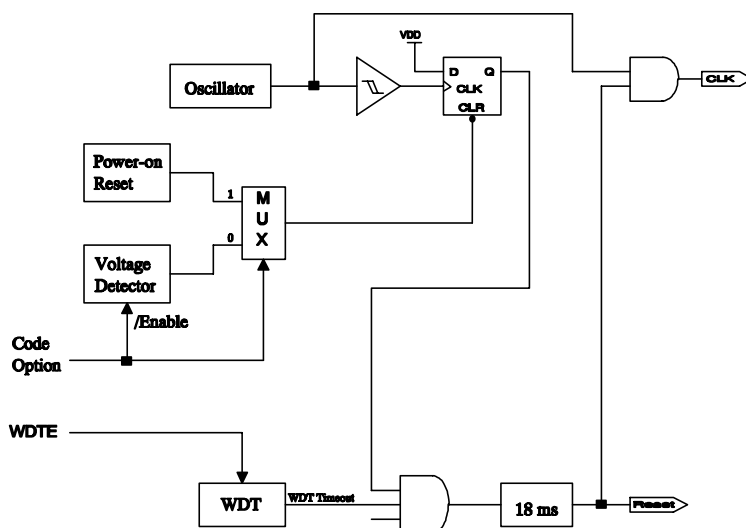

Fig.10 Block diagram of Reset of controller
- (1) External /RESET pin
- (2) Power on reset or Power on voltage detector reset (/POVD reset)
- (3) WDT timeout. (if enabled and in GREEN or NORMAL mode)
Note that only Power on reset, or only Power on voltage detector reset in Case(2) is enabled in the system by CODE Option bit. If /POVDs disabled, Power on reset is selected in Case (2). Refer to Fig.10.